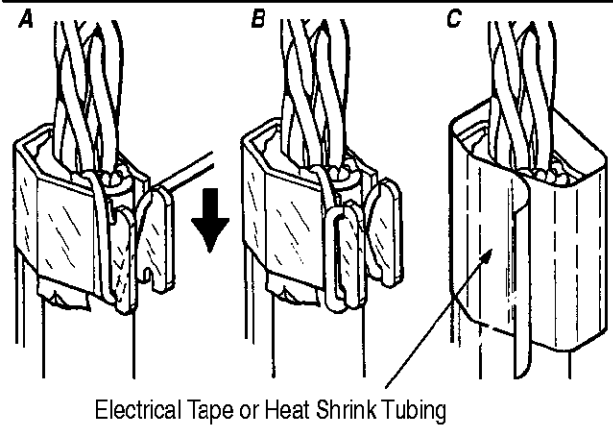

Figure 5
6. Grasp drain wire with needle-nose pliers. Bend wire around clip tabs in a figure-8 pattern, using slots provided in tabs. Use all of drain wire, and end with wire between tabs. Wrap 1 1/2 turns of 12.7-mm [.50-in.] wide vinyl electrical tape around ground clip. See Figure 5.